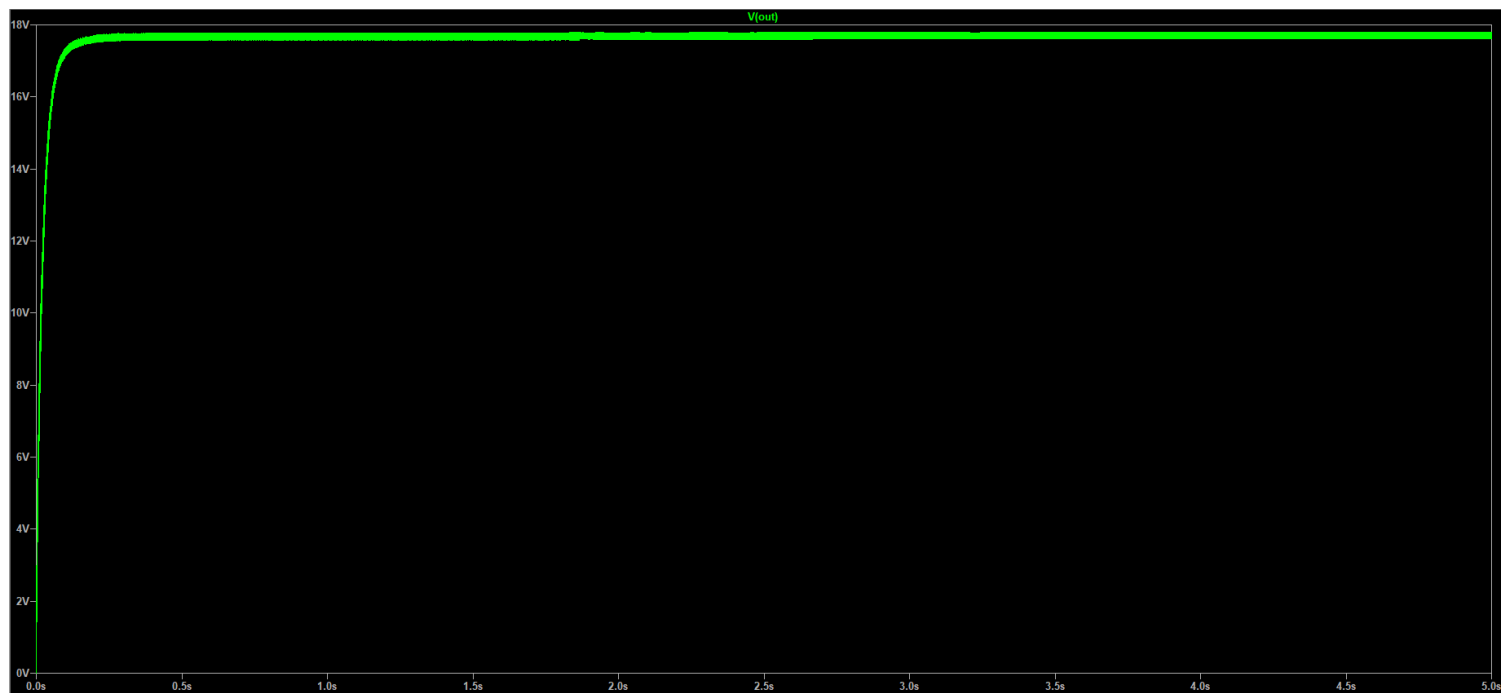

Figure 8: Output of Reference Design Without Load
- As you can see from the figure 8 the output of the generator is $V_{out} = 17.795338$ volts. If we check percentage error and efficiency of the circuit without load:
- Number of Stages (N) = 4, $V_{peak-to-peak} = 5$ volts